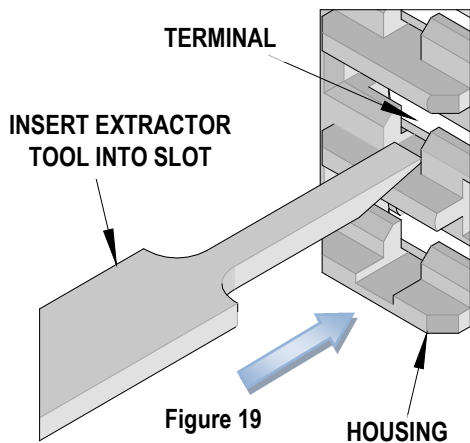

Figure 19
2. Insert the Extractor Tool into the slot below the terminal, seated in the connector housing and slide it forward until it stops. See Figure 19.